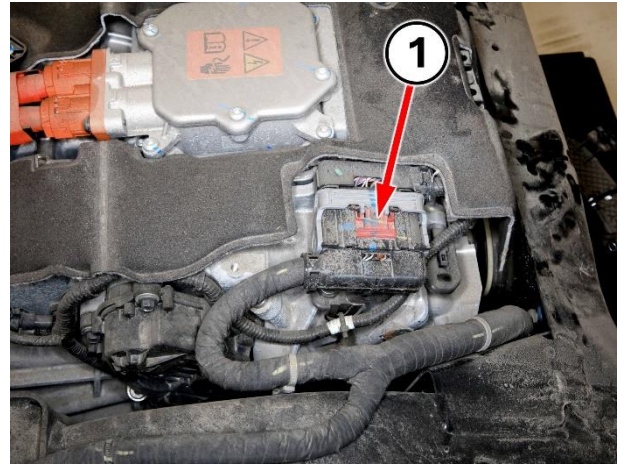

Figure 30 – EDM Harness Connector
68. **Right side of EDM:** Disconnect the wire harness connector from the EDM (Figure 30).